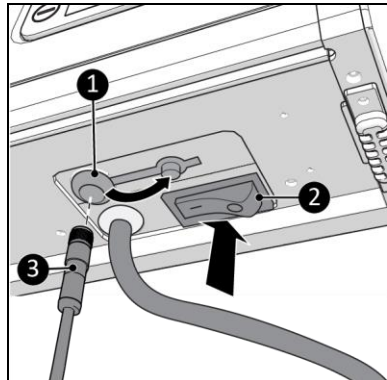

Figure 11
1. Make sure the ON/OFF switch is in the OFF position (Figure 11, pos. 2)
2. Connect the temperature sensor connector (Figure 11, pos. 23) to the sensor plug (Figure 11, pos. 1).